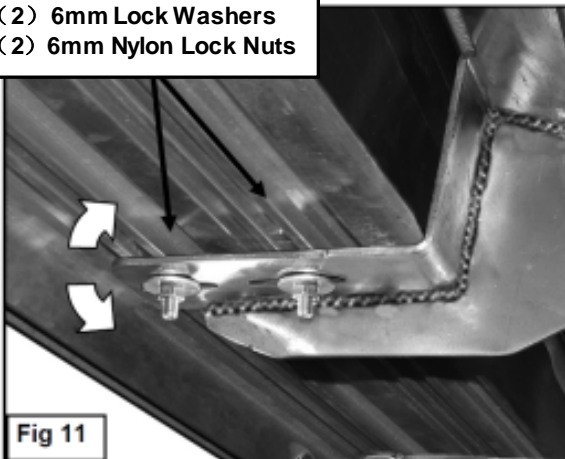

Fig 11
6	Carefully unwrap the passenger side Running Board. From the front, slide (3) Square Hex Bolt into each channel in the bottom of the Running Board, (Figure 10) . Slide the Square Hex Bolt forward or back to line up with the (3) previously installed Mounting Bracket. Hold the Running Board up to the vehicle at a slight angle and gently push it into position against the rocker panel. Loosen Brackets if necessary. Insert the Square Hex Bolt through the slot in the Brackets, (Figure 11) .
7	Attach the Running Board to the Mounting Brackets with the included (6) 6mm Flat Washers, (6) 6mm Lock Washers and (6) 6mm Nylon Lock Nuts, (Figure 11) . Leave hardware loose at this time.
8	Note that each Bracket has a small amount of height and angle adjustment. A. Check to see if the Running Board is level to the car, front to rear, not level to the ground. To adjust the height of the Bracket, loosen the 10mm Bracket hardware and slide the Brackets hardware and slide the Brackets up or down the lower body panel. Once level, tighten the 10mm Bolt Plate to Bracket hardware only. The Hex Bolt on the back of the Mounting Bracket for the Support Plate should be completely loose at this time. B. Next, check for level to the ground, side to side only. If the outside edge of the running board is tilted down, tighten the long 10mm Hex Bolts on the back of the (3) Mounting Brackets evenly until the Running Board is level, (Figure 11&12) . If the Running Board is tilted up, loosen the Hex Bolt in the Support Plate a little until the Running Board is level. Once level, tighten all hardware.